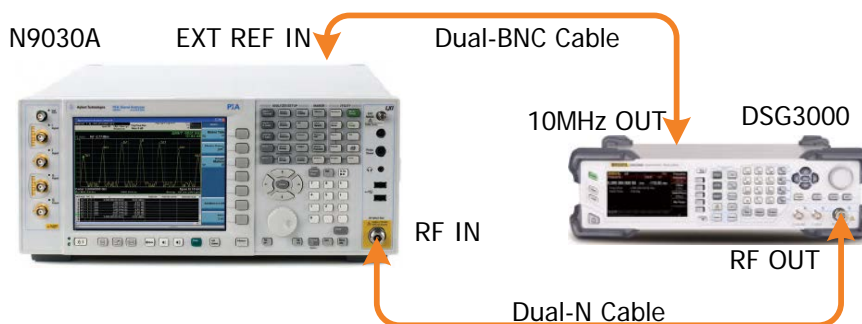

Figure 2-6 FM Internal Modulation Test Connection Diagram
1. Synchronize the DSG3000 and signal analyzer. Connect the RF output terminal of the DSG3000 with the RF input terminal of the signal analyzer as shown in Figure 2-6.